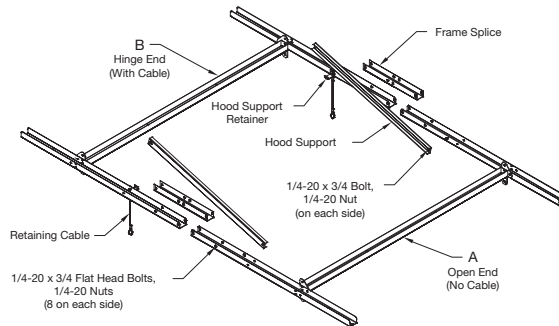

Figure 4 — 3FKE2 & 3FKE3 Hood Frame Assembly
2. Refer to Figure 4. Assemble A & B using (1) frame splice and (8) 1/4-20 x 3/4 flat head bolts and (8) 1/4-20 nuts per side.
3. Refer to Figure 4. Fasten hood support to each side of the frame using (2) 1/4-20 x 3/4 bolts and (2) 1/4-20 nuts. Temporarily secure hood supports to retained position until hood is fully assembled.